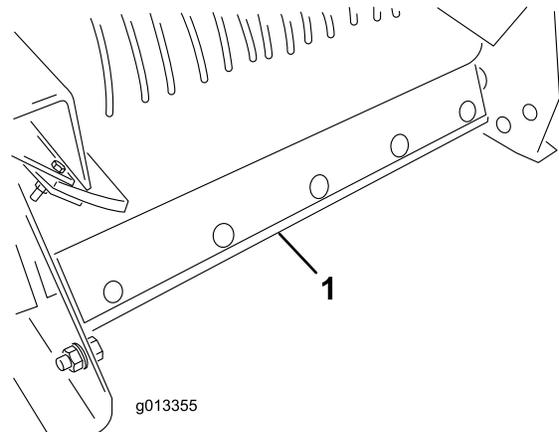

Figure 50
5. Remove the belt cleaning scraper assembly from the rear of the ProPass (Figure 50).